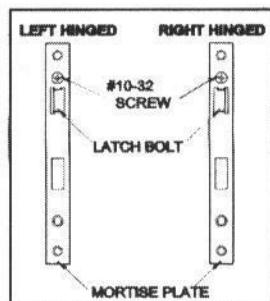

FIGURE 3
C. If the latch bolt orientation of the mortise plate and latch assembly matches your door go to **Step D.** If the latch bolt orientation is incorrect for your door, remove the two #10-32 flat head screws and mortise plate. Rotate the latch bolt 1/2 turn (180 degrees) and reattach mortise plate to latch assembly. **See Fig. 3.**